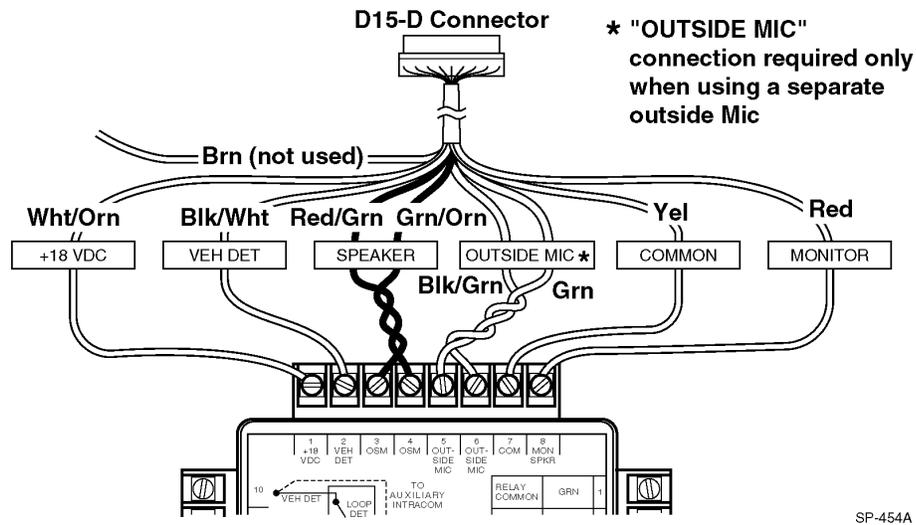
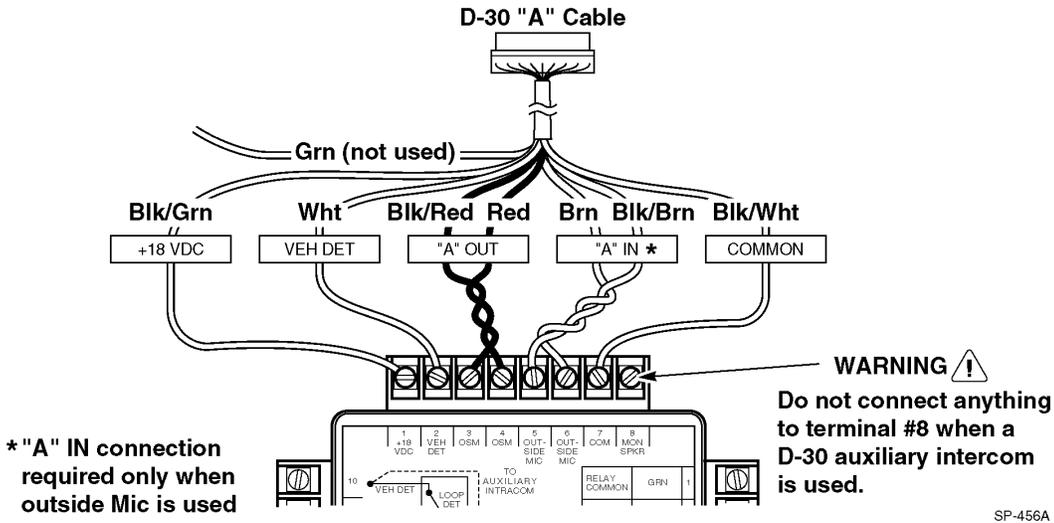

Figure 9. D-15D (M478 DA) Connections
Figure 11. D-30 Connections
1. Connect the auxiliary intercom to the "TO AUXILIARY INTERCOM" terminals on the interconnect module as shown in Figure 9 through Figure 11 (depending on the model of intercom used).